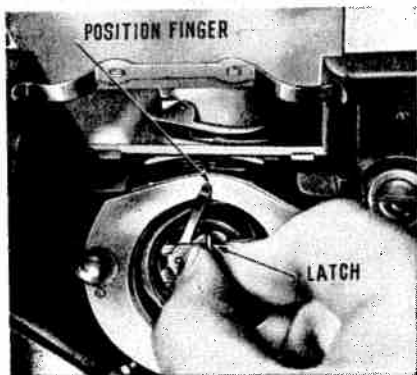

Fig. 9
4. After threading the bobbin case, hold its latch (Fig. 9) between the thumb and forefinger of left hand, with its position finger
opposite the notch at the top of the shuttle race and replace it on the center stud of the shuttle (Fig. 9).